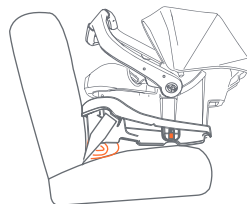
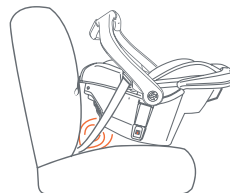

Fig. 59-3
Fig. 60-1
- If the Seat Angle Indicator level line is not parallel with the ground, or the bubble is not centered, using the Elevation Foot, stow the elevation foot under the base, place a rolled towel, folded towel or pool noodle under the front of the base (Fig. 59-3), or at the foot end of carriers (Fig. 60-1), to achieve the correct position.